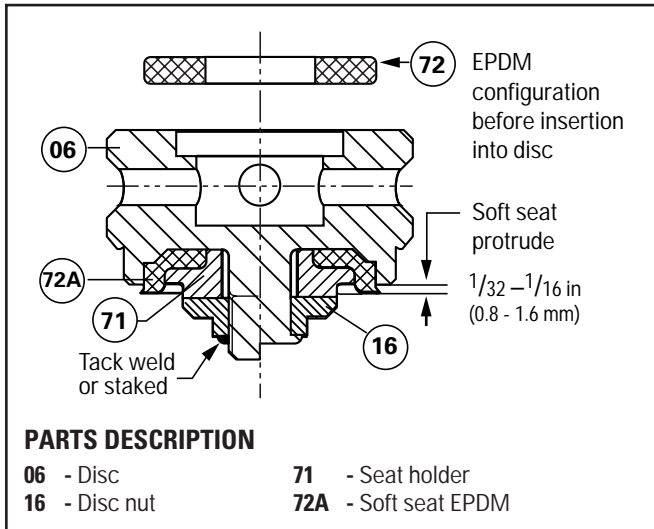

Figure 8.1A Piston disc with a replaceable EPDM soft seat
1. EPDM SEAT If replacing an EPDM seat (*Figure 8.1A*), remove tack weld or staked area by grinding or filing. Carefully unscrew the disc nut (16) from the disc. Remove the seat holder (71), then the EPDM soft seat (72A). Thoroughly clean the piston disc soft seat area and disc post threads, removing any burrs and or particles of foreign matter. Install a new EPDM seat, replace seat holder and screw on the disc nut.